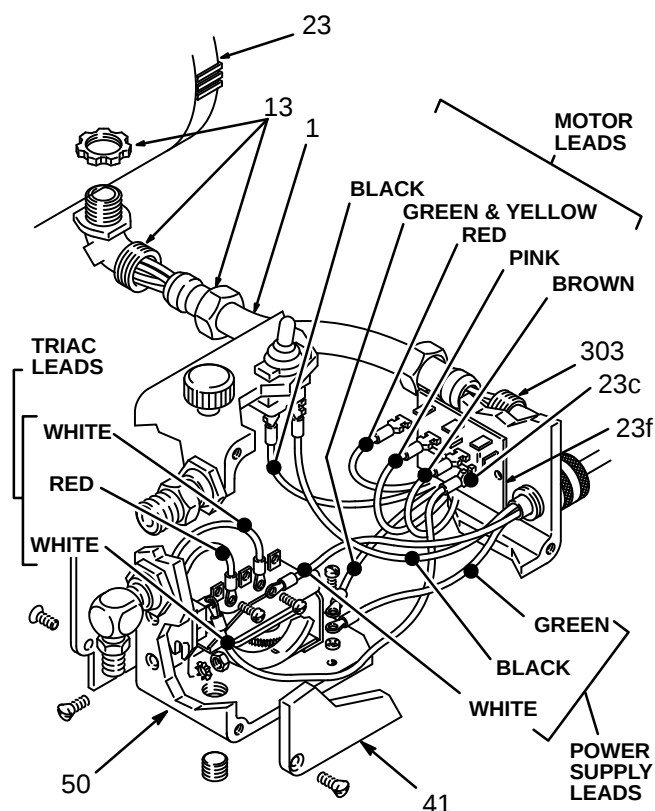

Fig 23-1
1. Remove the pressure control cover (41). Pull the circuit board (23f) out carefully, just enough to reach the wire terminals. Disconnect the leads. Remove the board. See Fig 23-1.
3. Disconnect the remaining two motor leads (black and green/yellow). See Fig 23-1.
5. Pull the pressure control (50) away from the conduit (1) and carefully guide the leads through the connector (303) one at a time. See Fig 23-1.
9. Connect any other loose wires. See Fig 23-1.